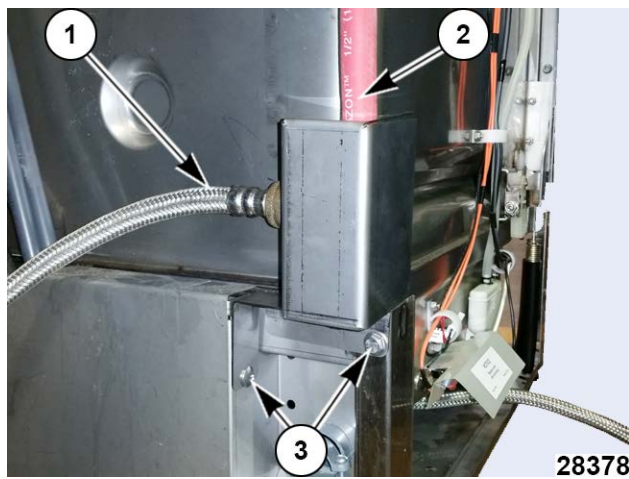

Fig. 24
11. Connect cold water supply line (fill hose) [1] (Fig. 24) to water valve sub-assembly.
12. Connect 22" hose (supplied) [2] (Fig. 24), with barbed fitting, on top of water valve assembly.
14. Install DWT Valve Cover [3] (Fig. 24) to back of junction box.